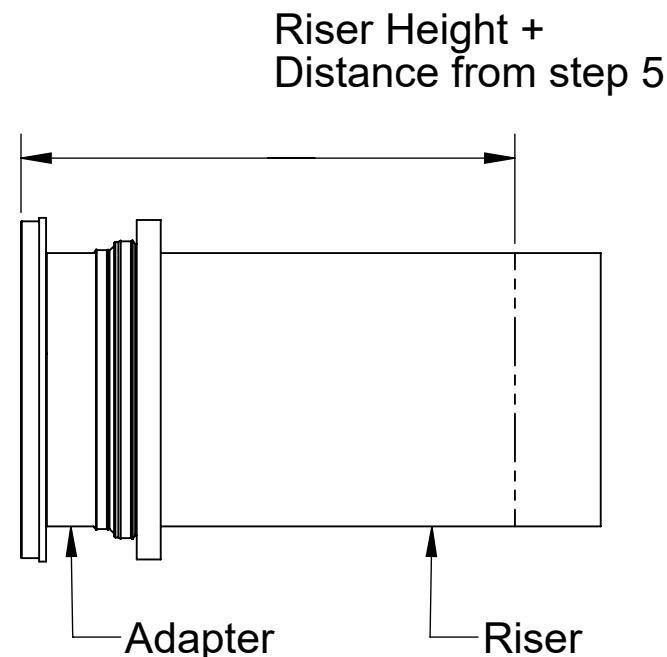

Figure 2
5. From the top of the adapter, measure your needed total riser height downward to the sidewall of the riser. Then, add 6". For example, if you have a FLI-125 and need a 15-1/2" extension, you would measure down from the top of the adapter 21-1/2" (15-1/2" + 6" = 21-1/2"). See Figure 2.